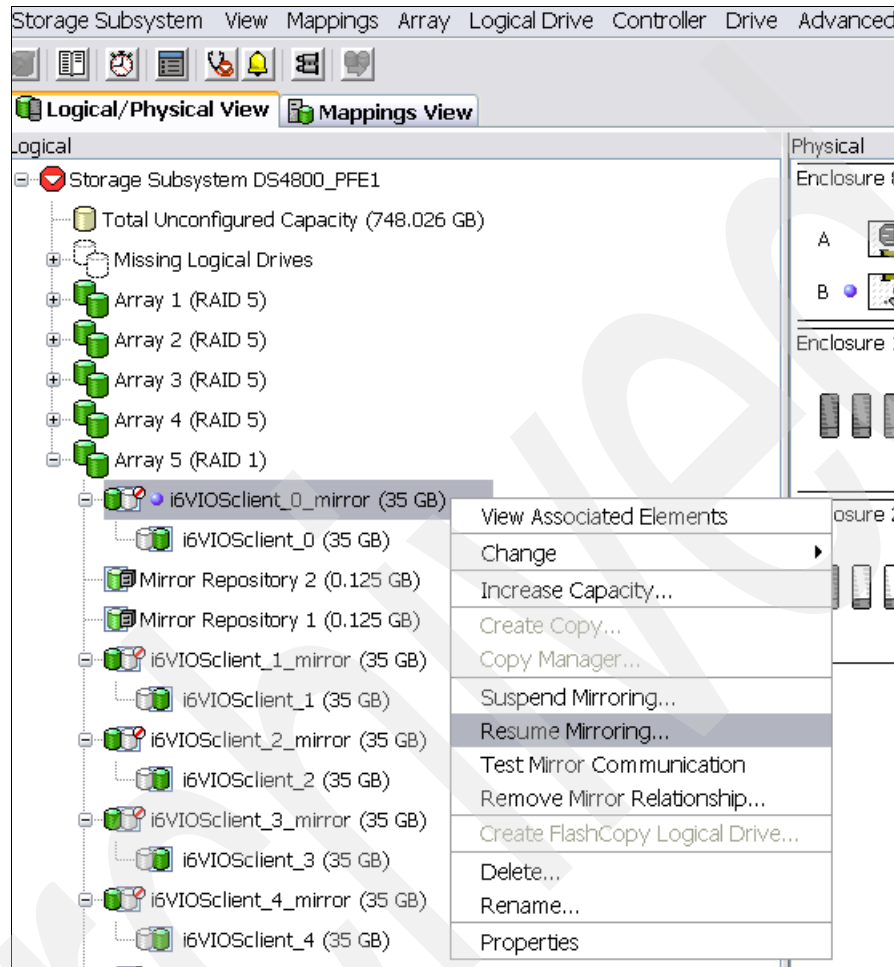

Figure 8-50 Resume metro mirroring
- Resume metro mirroring on the remote site. To do this, right-click the logical drive in the Subsystem Management window Logical / Physical view and select **Resume Mirroring** from the pull-down, as shown in Figure 8-50. Confirm that you want to change the role to secondary by clicking **Yes** in the confirmation window.